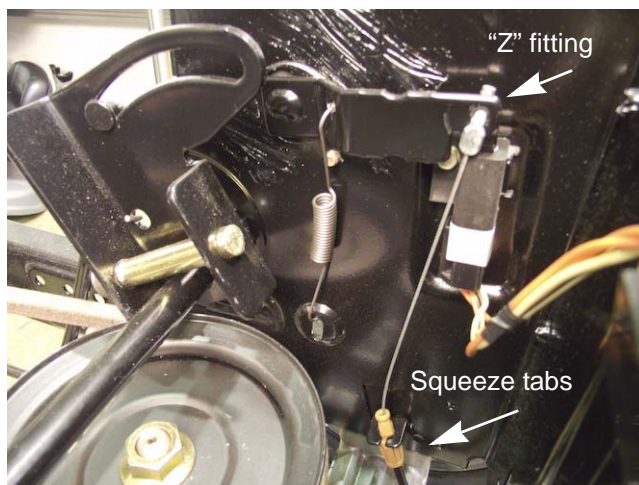

Figure 8.48
9. Reach through the opening in the fender assembly where the battery was located and remove the "Z" connector from the PTO deck engagement lever attached to the right side of the seat frame. See Figure 8.48.
10. Squeeze the two tabs to release the deck engagement cable to the bracket on the seat frame. See Figure 8.48.